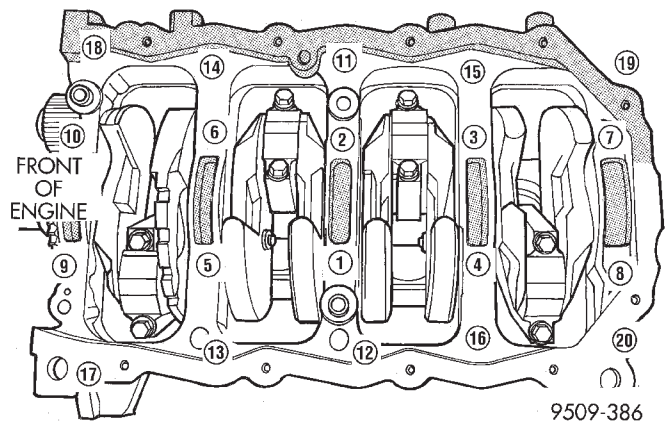

Fig. 13 Main Bearing Caps/Bedplate Torque Sequence
- Step 5: Install and tighten bolts (1 - 10) in sequence shown in (Fig. 13) to 41 N·m (30 ft. lbs.).
(9) Tighten bolts (1 - 10) again to 41 N·m (30 ft. lbs.) + 1/4 turn in sequence shown in (Fig. 13).
(10) Install main bearing bedplate to engine block bolts (11 through 20), and torque each bolt to 28 N·m (20 ft. lbs.) in sequence shown in (Fig. 13).
(11) After the main bearing bedplate is installed, check the crankshaft turning torque. The turning torque should not exceed 5.6 N·m (50 in. lbs.).